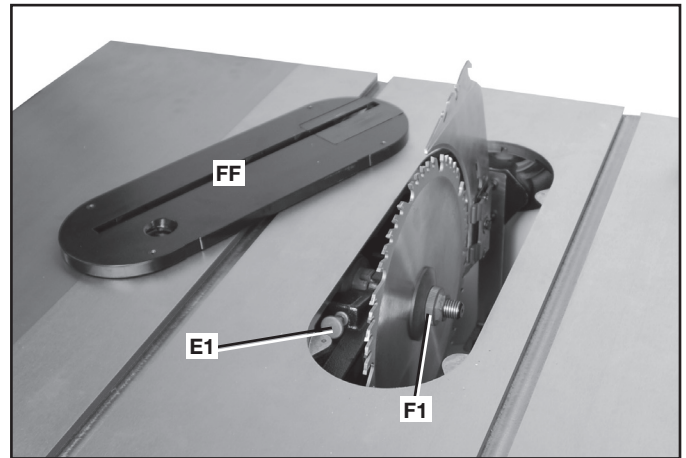

FIG. 52
1. Remove the throat plate (FF) Fig. 52, and raise the saw blade to its maximum height.
2. Remove old blade, if needed, by holding red arbor lock button (E1) Fig. 52. Use included arbor wrench to remove the blade retaining nut (F1). Remove old blade.